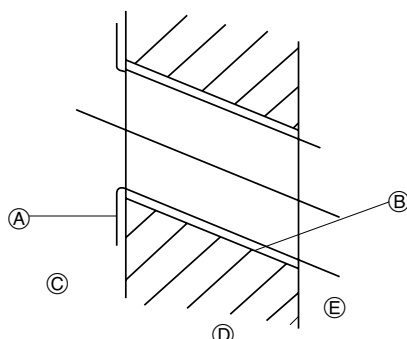

Fig. 3-3
- ① Indoor unit center line
- ② Left drain range
- ③ Right drain range
- ④ Hole for tapping screw
- ⑤ Bolt hole
- ⑥ Hole for tapping screw
- ⑦ Contour of the unit
- ⑧ Knockout hole for left rear piping
- ⑨ Rear piping access hole (90-100 mm, 3-9/16 to 4 inch dia.)
2) Drilling the piping hole (Fig. 3-3)